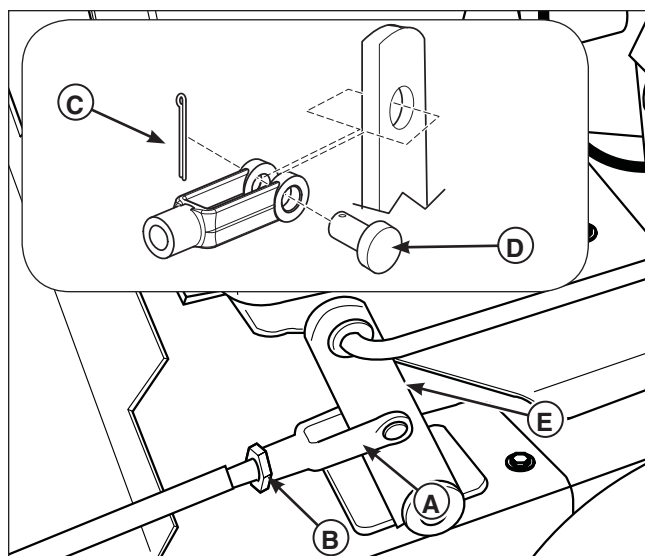

Figure 23. Lift Rod Clevis Adjustment
7. Refer to Figure 23. To adjust the lift rods the 1/2-20 steel clevises (A, Figure 23) will need to be adjusted. Loosen the 1/2-20 jam nut (B) that tightens against the clevis. Remove the cotter pin (C), and the clevis pin (D) that are connected to the rear deck lift rod (E). Turn the clevis to adjust the length of the rod. Reinstall the clevis pin and the hair pin. Tighten the 1/2-20 jam nut. Measure and record the distance between the lift pivots and the rod pivots. Repeat this process until the measurements are equal.